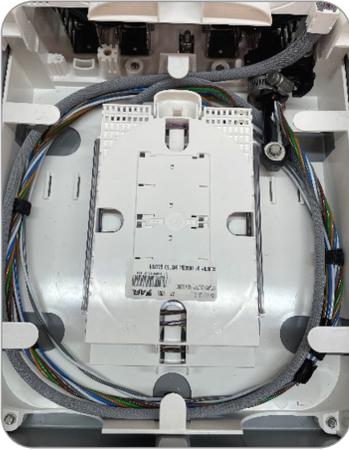
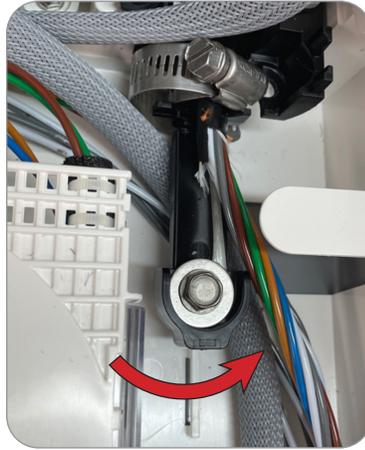

Figure 17
Figure 18
8. Route fiber with one slack loop in the box before going to splice tray (Figure 17). Move fiber under the Cable Attachment Unit if one is installed (Figure 18).